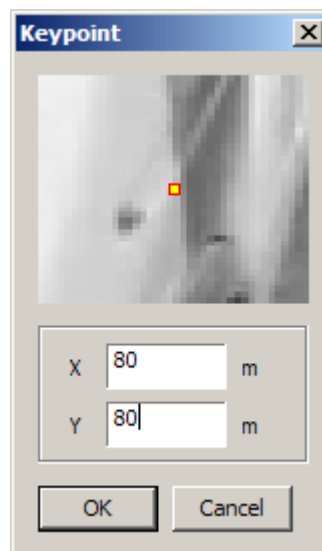

Fig. 7.4-7 Keypoint setup
- 5.3. In the zoom window that opens, mark the keypoint and enter the ground coordinates in the X and Y fields (see Fig. 7.4-7).
- 5.4. Press the OK button (see Fig. 7.4-7).